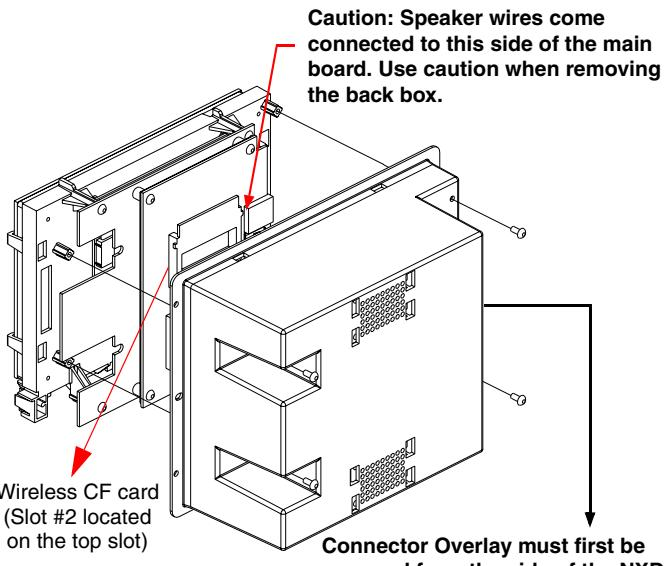

FIG. 10 Location of the wireless CF card connector on main board
- Carefully lift-off the back box housing and angle it over to the side of the unit where the wires are connected to the circuit board (FIG. 10).